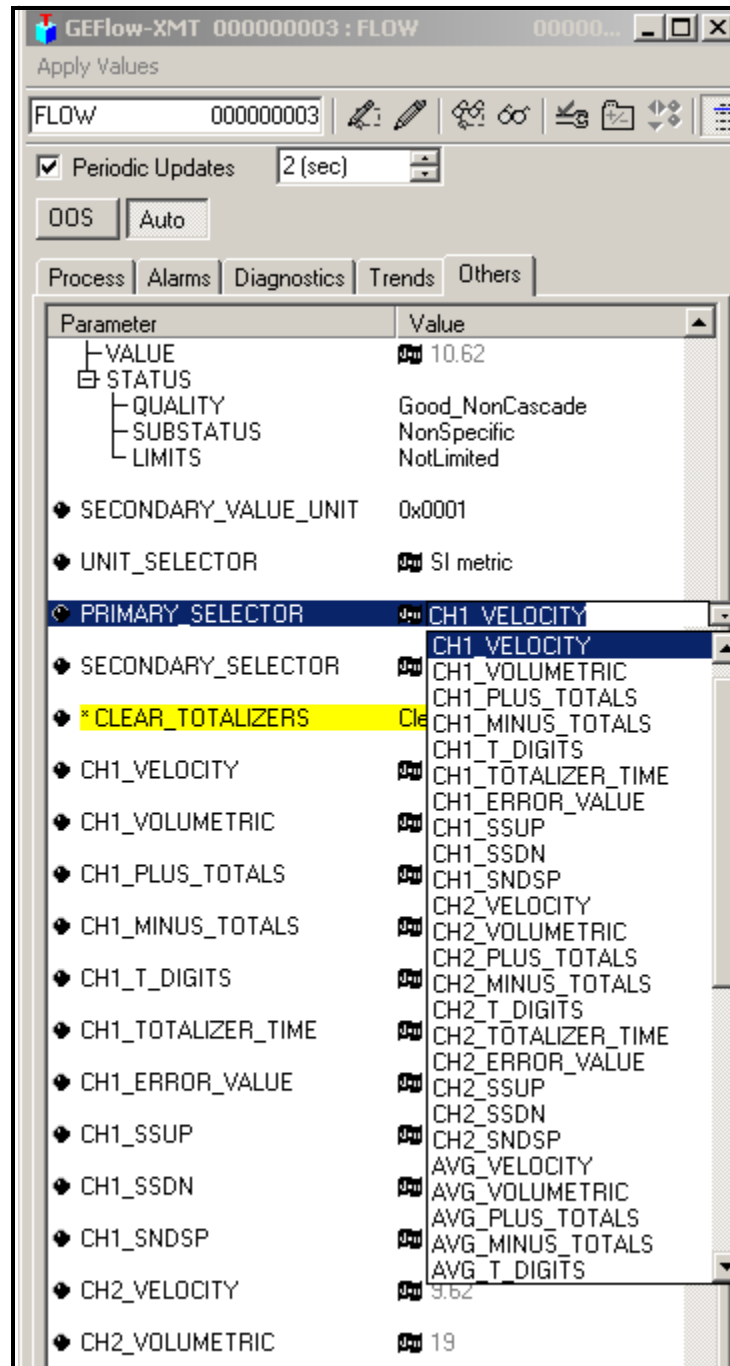

Figure 48: Primary Selector Drop Down List
2. Select the **Others** tab and open the drop down list for the PRIMARY_SELECTOR and SECONDARY_SELECTOR (refer to Figure 48 on page 55).
3. Choose the unit from the list (see Figure 48 on page 55).